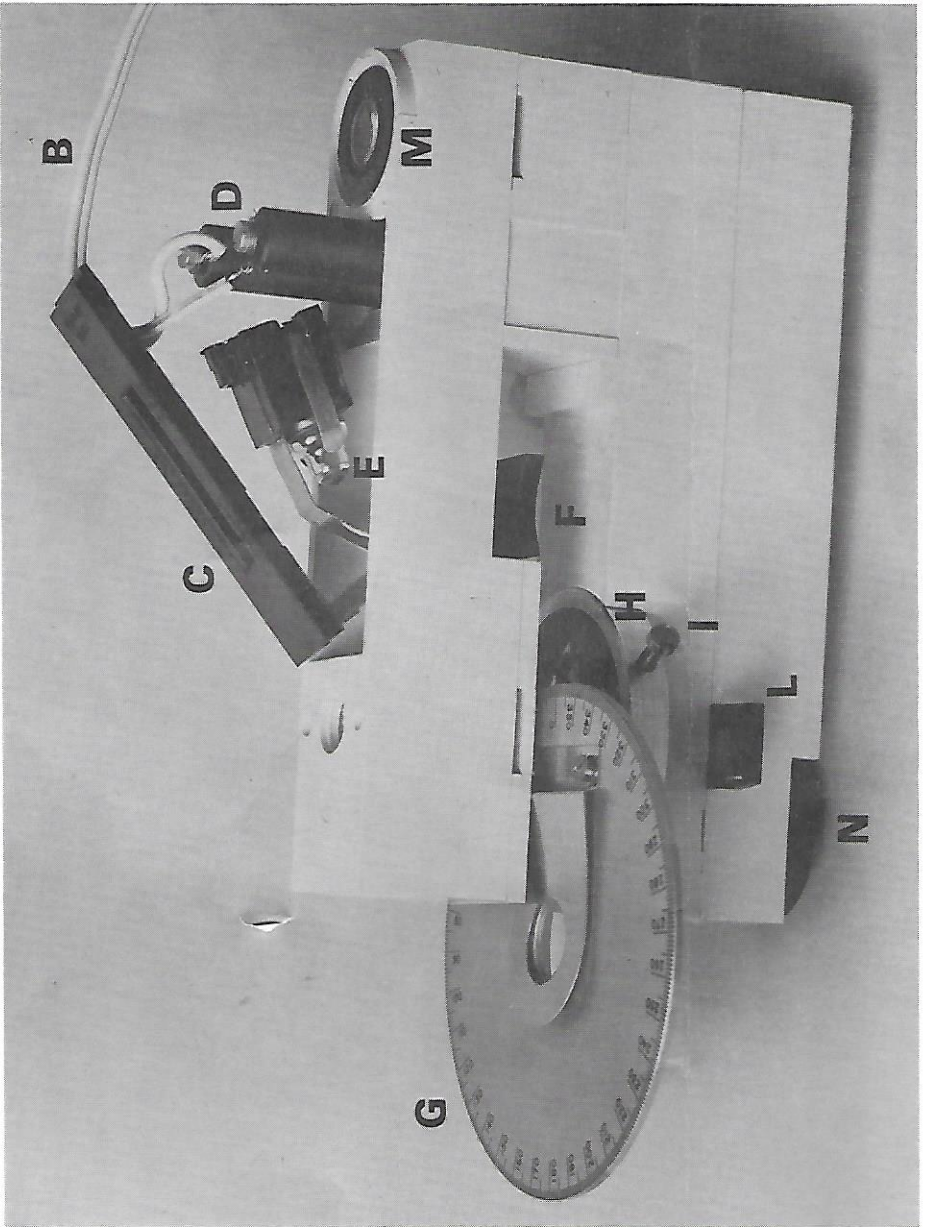
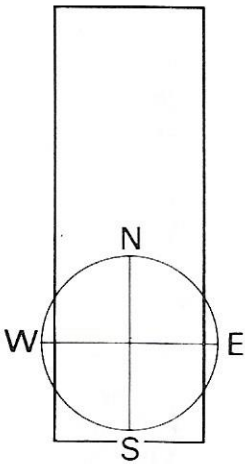

Figure 2
Figure 5 Crosswire alignment in eyepiece.
The analyser (F) (Fig. 2) is a small piece of polaroid, fitted so that its vibration plane is orientated parallel with the long axis of the microscope. It is mounted on a black push-pull slide. In its forward position, it is **IN** the optical system, in its rearward position it is **OUT**.
The eyepiece (M) (Fig. 2) has a magnification of x5. It is fitted with crosswires, which are aligned parallel to and perpendicular to the long axis of the microscope (Fig. 5).
Access is by removing the black plastic strip (C) on top of the microscope—apply pressure at the end where it says 'Press to Open'. (This may be a little stiff, but *firm* pressure with the tips of both thumbs on the extreme edge of the strip should make it click open.) The output transformer lead passes through a slot in the side of the microscope body and is connected to two black cylinders (D) (Fig. 2).
The light bulb (E) (Fig. 2), a 2.2 volt lensed type, is a push-fit in the black block which forms part of the on-off switch, the whole of which can be lifted out if the bulb needs replacing. To remove the bulb, simply push it out of its hole with a pencil.
2 The crosswire alignment Make sure the Analyser (F) is pulled back to the OUT position. Look through the eyepiece and check that the crosswires are correctly orientated with respect to the long axis of the instrument (Fig. 5). AT THE SAME TIME check that your field of view is evenly illuminated. If it is not, the polarizer (L) *below* the objectives is probably not properly in position. Adjust it, and do not move it again. Remember, you want the *central* window in the optical path.